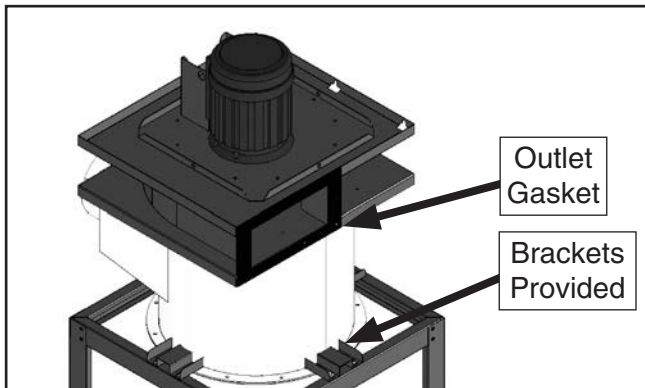
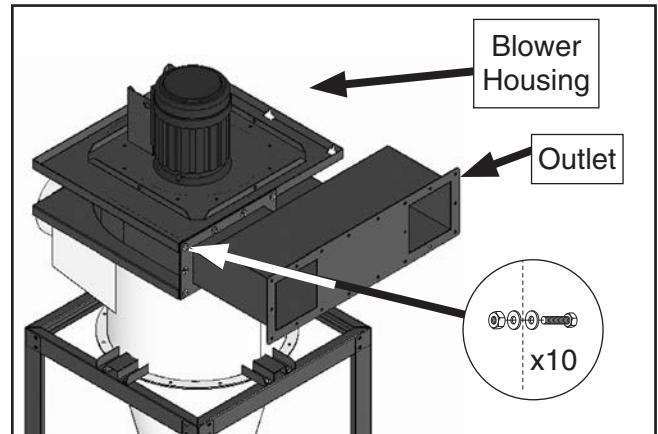

Figure 4. Dust collector assembled with provided brackets and outlet gasket.
Figure 5. Blower housing and outlet attached.
3. Position outlet gasket around opening on blower housing (see **Figure 4**), then attach outlet to blower housing (see **Figure 5**) using (10) $\frac{3}{8}$ " x 1" hex bolts, (20) $\frac{3}{8}$ " flat washers and (10) $\frac{3}{8}$ " nuts.